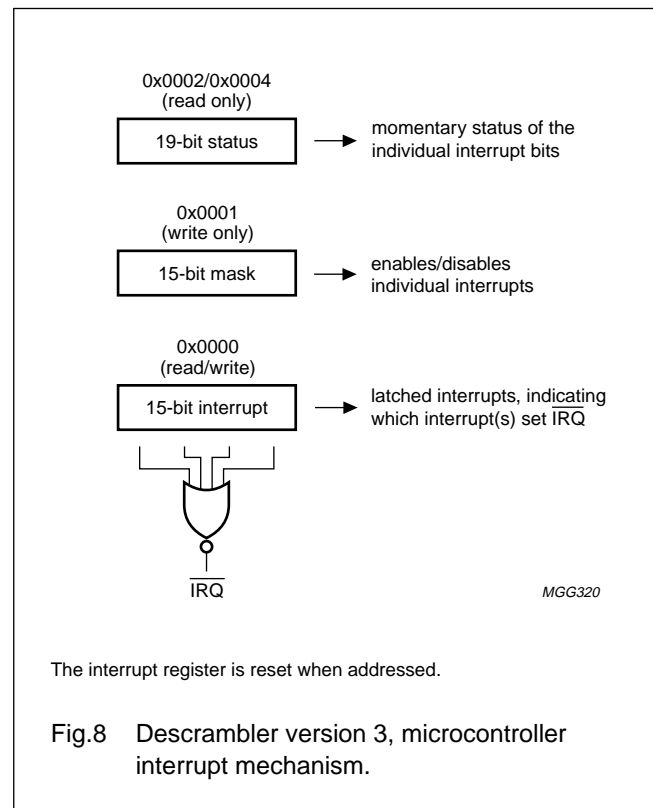

Fig.8 Descrambler version 3, microcontroller interrupt mechanism.
- A1 and A0; a 2-bit address bus. If the least significant address bit (0) is logic 0, the most significant byte of a 16-bit register is addressed, otherwise the least significant byte is selected. If the most significant address bit (1) is logic 1 DAT7 to DAT0 carries the address information, otherwise it will carry control data.
- \overline{IRQ} ; an active LOW (open-drain output) interrupt request signal. An interrupt is set if one of the 15 bits in the descramblers internal interrupt register is set. The interrupt mechanism consists of three 15-bit registers and one 4-bit register, as illustrated in Fig.8. The interrupt status register enables the microcontroller to monitor the momentary status of the interrupts. This is particularly useful during read operations in the descramblers CA buffers, as the interrupt status bits in question ['flt0_stat', 'flt1_stat', etc. (see Table 10, addresses 0x0002 and 0x0004)] are reset when the buffers have been emptied or released.
Table 6 Definition of interrupt mechanism; see Fig.8